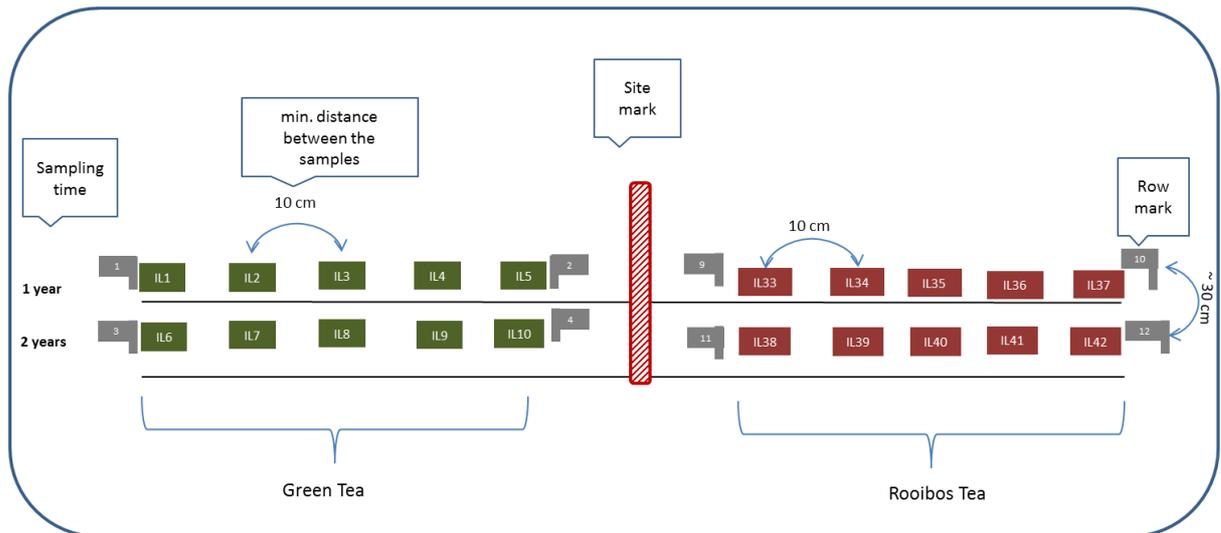

Figure 4: Sketch of the study set up.
- At each replicate are install 5 green and 5 rooibos tea bags in 2 “installation lines”. Each line should be 50 cm long allowing 5 teabags to be placed on the line with approximate 10 cm between neighboring bags (Fig. 4). For each “installation line”, make a 5cm deep slot vertical into the soil, then cut horizontal into the soil, lift gently and place the teabag into the upper soil (~0-5cm) the tag shall be visible on the surface. Place every additional bag in a distance of approx. 10cm. Place the bags in ascending serial number in a row, so that in case a labeling is missing you can “reconstruct” the missing label number from the numbers of the previous and subsequent bags. Optionally, label the beginning and end of 5 bags with metal sticks and number plate so that in case labeling is missing you can assign the bag number when they are placed in ascending seria. Metal sticks are also suitable to be detected with metal detector, if the spot is covered with thick litter layer. In case the string with tag is falling apart from the bag, take a tackers with you to attach them again.